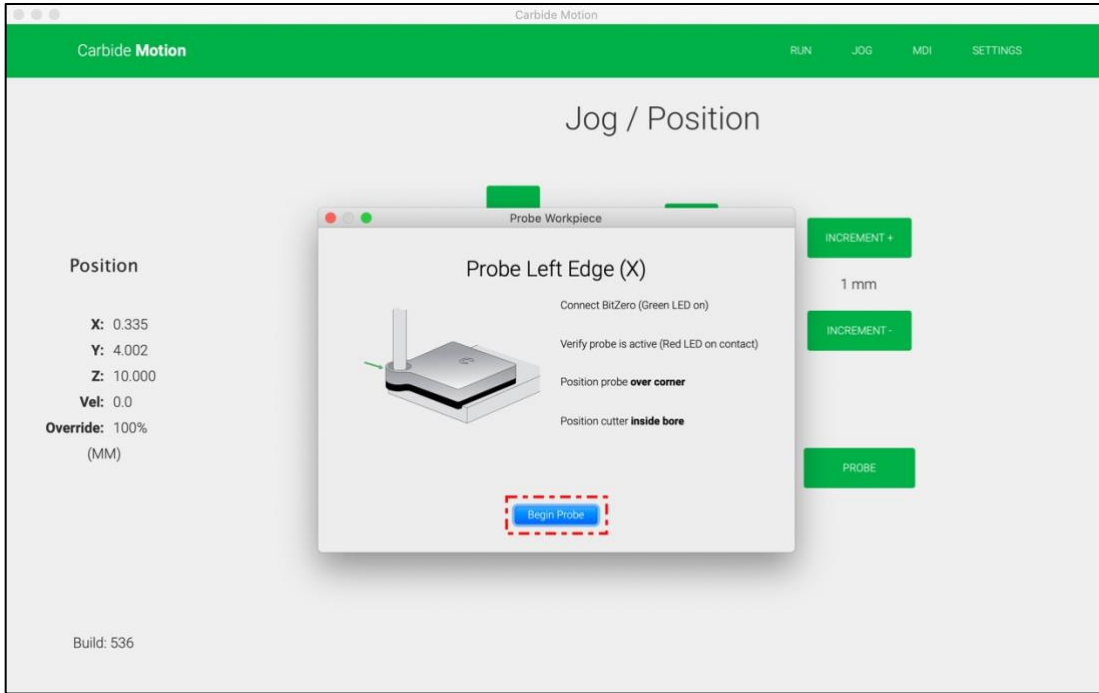

Figure 22
**NOTE:** Make sure your setup matches the graphic shown onscreen for the probe cycle you have selected. See **Figs. 22** and **23**. If your setup does not match, the calculated zero location will be incorrect.
12. Click the **Begin Probe** button to start the probing sequence. See **Figs. 22** (X-only) and **23** (Y-only).